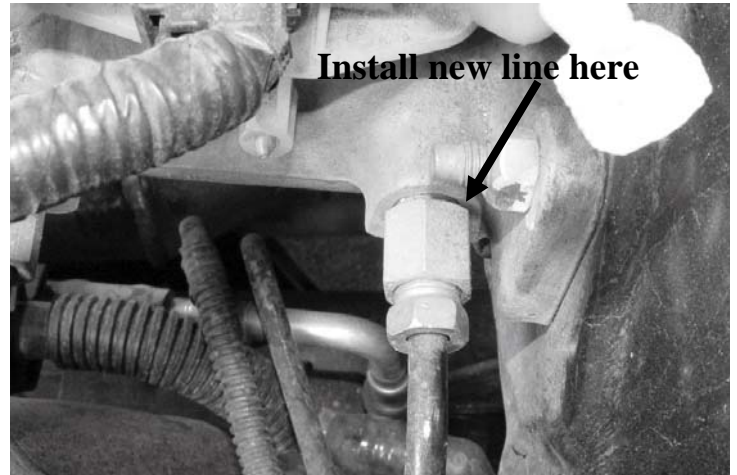

Figure 1
Step 3. Remove the entire brake line that runs from the rear port of the Master Cylinder to the ABS System. (Figure 1 & 2)